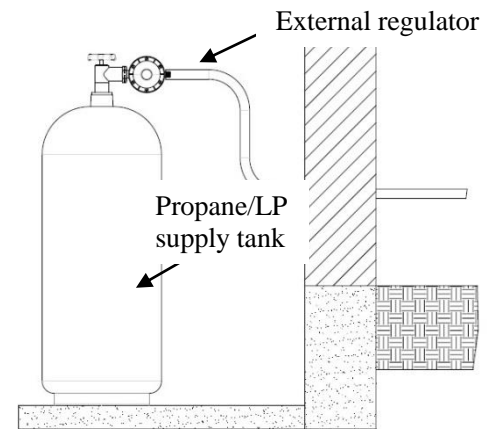

Figure 8 - External Regulator with Vent Pointing Down
**IMPORTANT:** Install an equipment shutoff valve in an accessible location where the gas pipe goes indoors. The equipment shutoff valve is for turning on or shutting off the gas to the appliance. Apply pipe joint sealant lightly to male threads. This will prevent excess sealant from going into pipe. Excess sealant in pipe could result in clogged heater valves. The installer must supply an external regulator with nominal out let pressure of 11" water column and sufficient flow rates. Install external regulator with the vent pointing down as shown in Figure 8. Pointing the vent down protects it from freezing rain or sleet. If flexible gas hose is applied, it should meet the requirements of ANSI/UL569 Standard for Pigtail and Flexible Hose Connection for LP-Gas. Improper regulator and/or gas hose assembly may occur damage on your heater, property or/and personal body.